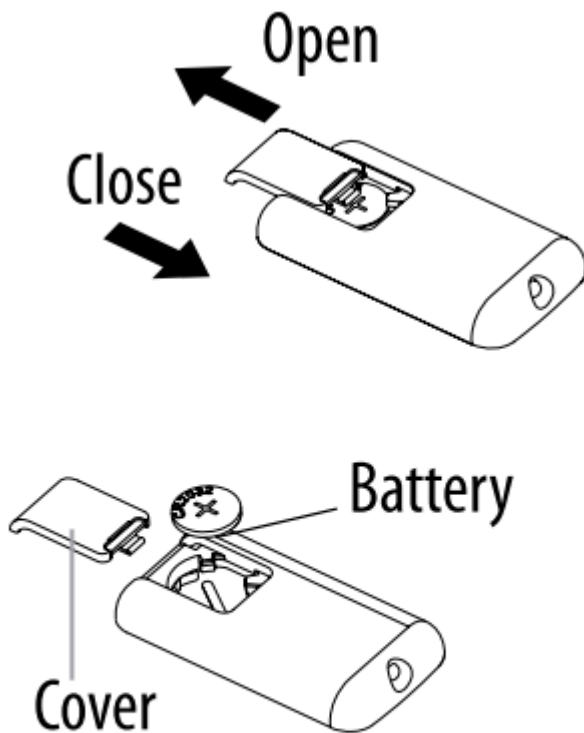

Fig. 2
When replacing the batteries, position, simply press the swing button (F) again. 8. To turn the appliance off, press the ON/STAND-BY button (A). The display may visualize a countdown for make sure you respect the polarity (see figure 2).